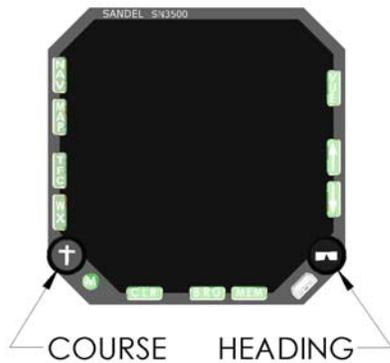
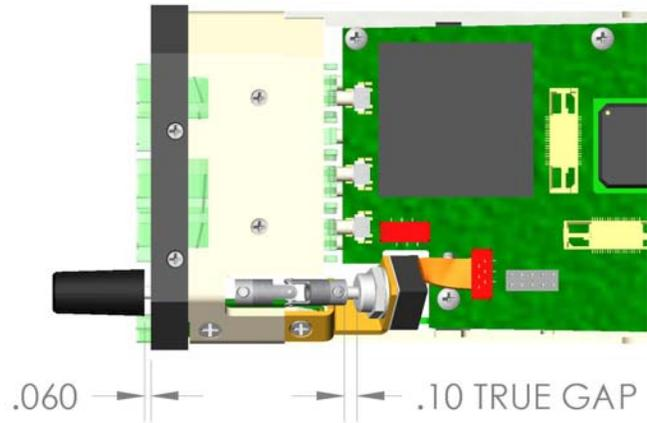

Fig. 5: Ensure correct orientation of Heading and Course Knobs.
Fig. 6: Space knobs to leave .06 gap between face of bezel and knobs, ~.10" gap between rear of U-Joints and faces of Encoders.
Fig. 5: Remove lamp and shim from protective packaging. **Do not touch lamp glass with bare skin!** This can significantly reduce lamp life. Ensure lamp is clean and free from dirt or dust. If cleaning is required, use isopropyl alcohol and a clean cotton swab.
2. Align U-Joints to Encoder Shafts and install into unit, leaving $\sim .10$ " gap between rear of U-Joint and face of Encoder (see Fig. 6).
3. Reinstall Heading and Course Knobs (ensuring proper orientation, see Fig. 5), thru bezel, into sockets of replacement U-Joints. Space knobs to leave $.06$ " gap between Knobs and face of bezel (see Fig. 6).
Fig. 5: Carefully reinstall Bezel onto Actuator Housing. Ensure that the machined lip in Diffuser Window engages Bezel opening and that Bezel fully seats. If necessary, loosen (but do not remove) screws at bottom corners of unit to allow Menu Actuator and USB socket to “float” to facilitate installation. Secure Bezel using 6 Ea Flat Head Machine Screws, 2-56 X .125. Re-torque corner screws, if loosened.